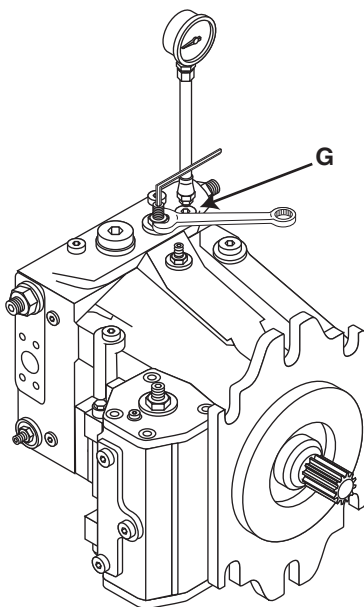

Figure 20. Charge Pressure Adjustment
1) Install 600 PSI gage in “G” port on the drive pump (**Figure 20**). The gage will require a size 10 male boss end to plumb to the gage port. With engine at low idle, the charge pressure should read 400 psi.